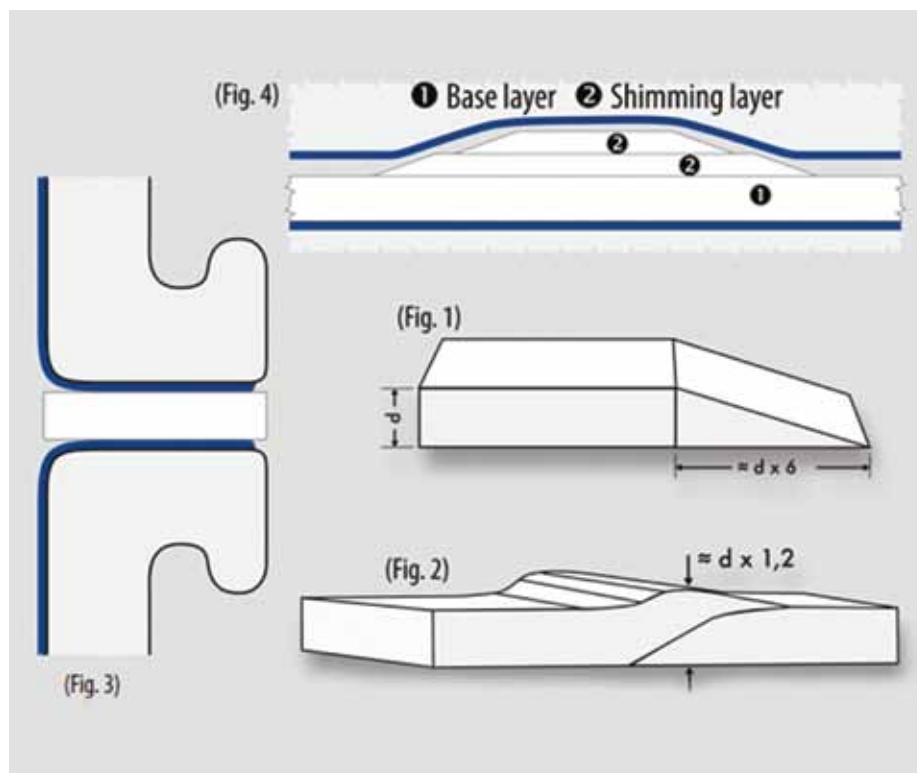

Figure 2: Instructions on how to install 25BI with shimming.¹
- For particularly difficult sealing problems (flange rotation, vibrations or similar) two strips of tape can be used (Image 1, Fig. 2).
- Join the two ends as shown in the sketch (Image 2, Fig. 2). The bolts should be torqued in a star pattern. This should be done in three stages, torquing to approximately 25% of the total required torque value with each round. The fourth and final adjustment should be made in a circular direction to the full torque value.